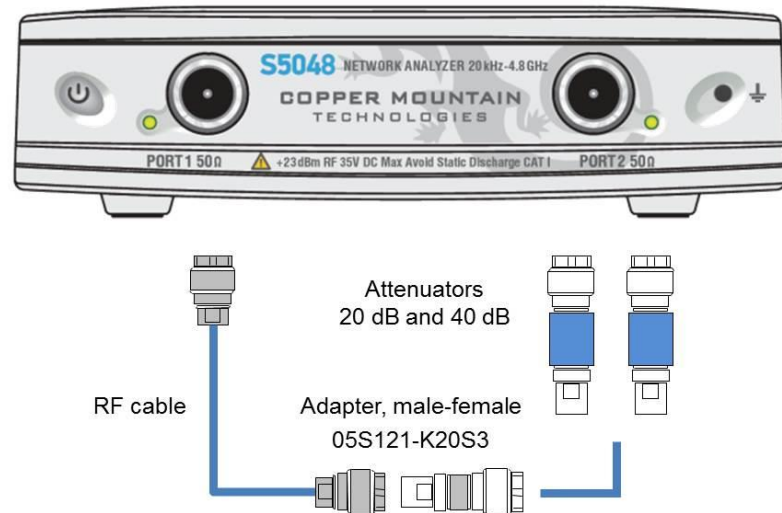
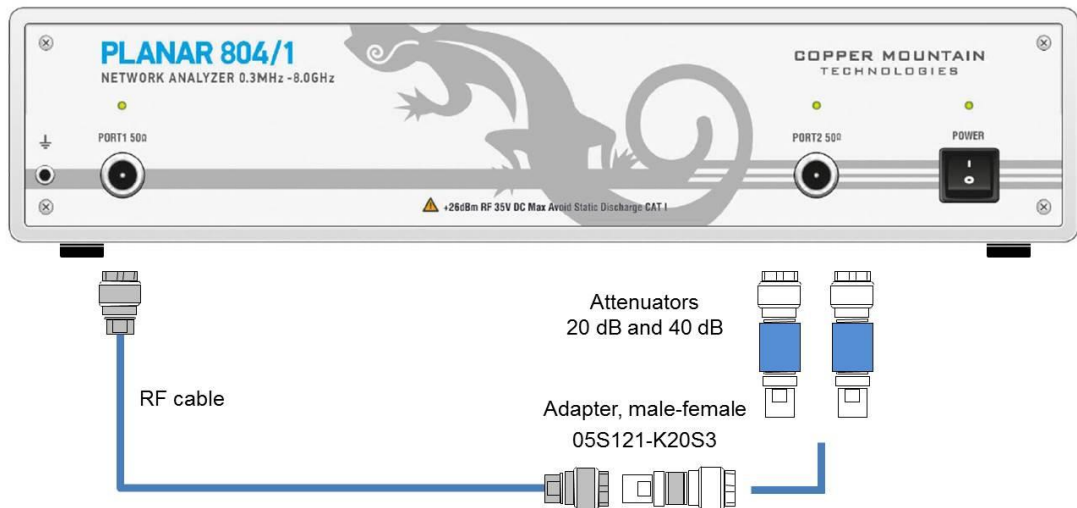
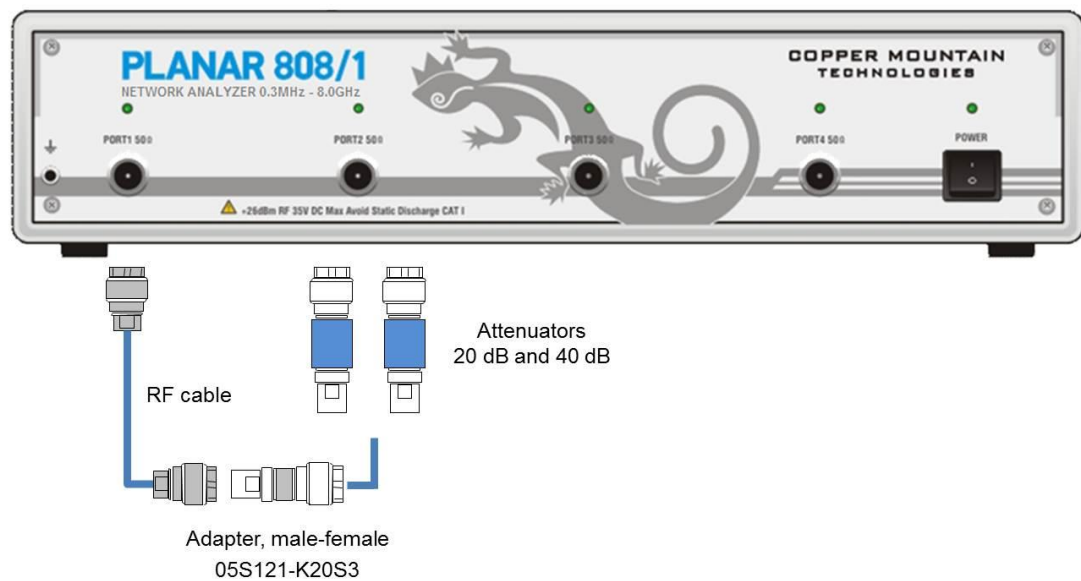

Figure 3 –Transmission coefficient accuracy measurement setup for S5048.
Figure 4 –Transmission coefficient accuracy measurement setup for Planar 804/1.
Figure 5 – Transmission coefficient accuracy measurement setup for Planar 808/1.
- 6.3.5.6 Connect up the measurement setup as shown in Figure 3 for S5048, or as shown in Figure 4 for Planar 804/1, or as shown in Figure 5 for Planar 808/1. Do not connect the attenuators. Use the torque wrench to tighten the RF cable connectors and adapter. The RF cable should be a phase- and amplitude-stable test cable.